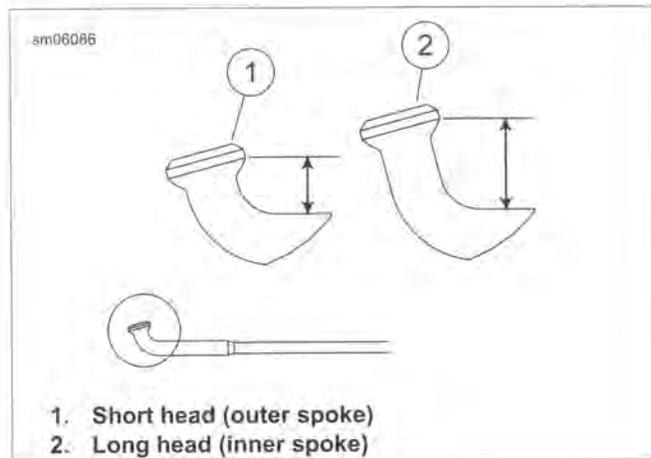

Figure 2-16. Spoke Heads
1. See Figure 2-16. Divide spokes into two groups.
- a. Outer spokes (short heads) (1).
- b. Inner spokes (long heads) (2).